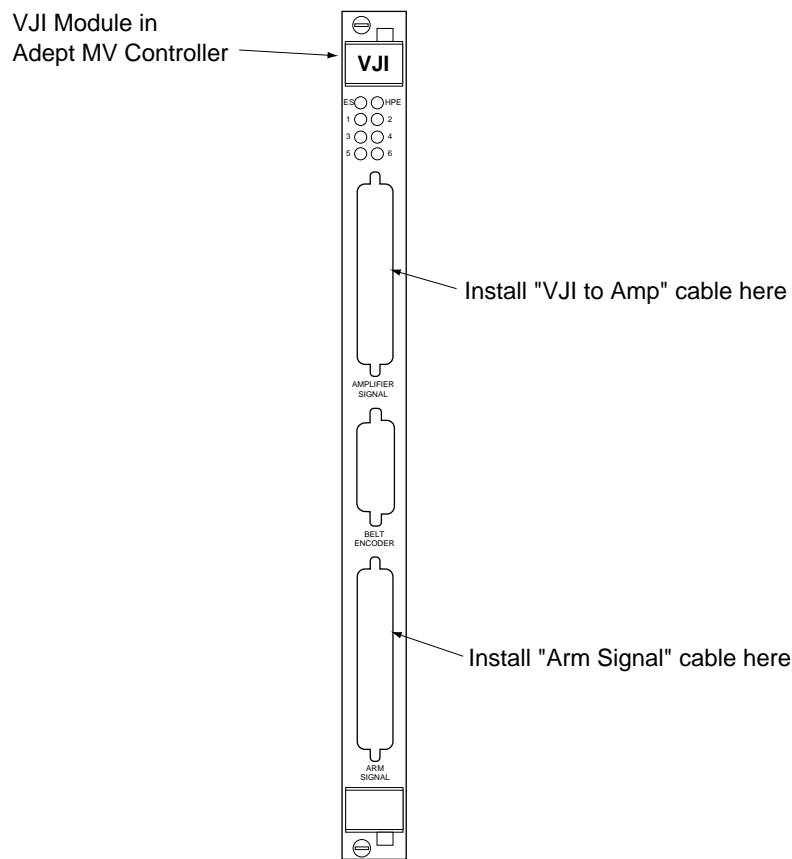

Figure 2-19. Robot-to-VJI Cable Installation
2. Connect the 50-pin D-sub connector to the Arm Signal connector (lower) on the VJI module. Tighten the two captive screws securely. See Figure 2-19.
1. Connect the cable end with the single connector to the connector marked Amplifier Signal (upper) on the VJI module. See Figure 2-19.